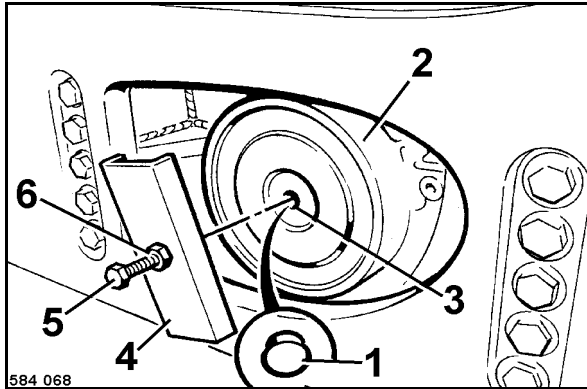

Fig. 112
- Remove plug (1) (Fig. 112).
- Lay the U-bar (5) across the brake housing (2) and turn the screw (4) into the tapped bore (3) until it bottoms.
- Turn the nut (6) down and tighten it for approx. one turn. The drum must rotate freely.